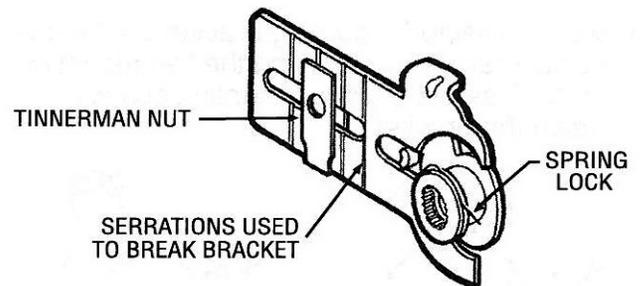

Figure 2
6. Space two Tinnerman nuts on bracket to correspond with original mounting hole spacings. It may be necessary to shorten the mounting bracket due to interface. This can be done by bending and breaking the bracket at one of the serrations. Refer to Figure 2.
8. Review prong drivers and dial shaft position at "off". Shaft and drivers should match the same physical position as the original. If necessary to remove the adaptable shaft, press the spring lock counter clockwise while lifting the shaft. Reposition the adaptable shaft as required. See Figure 2.